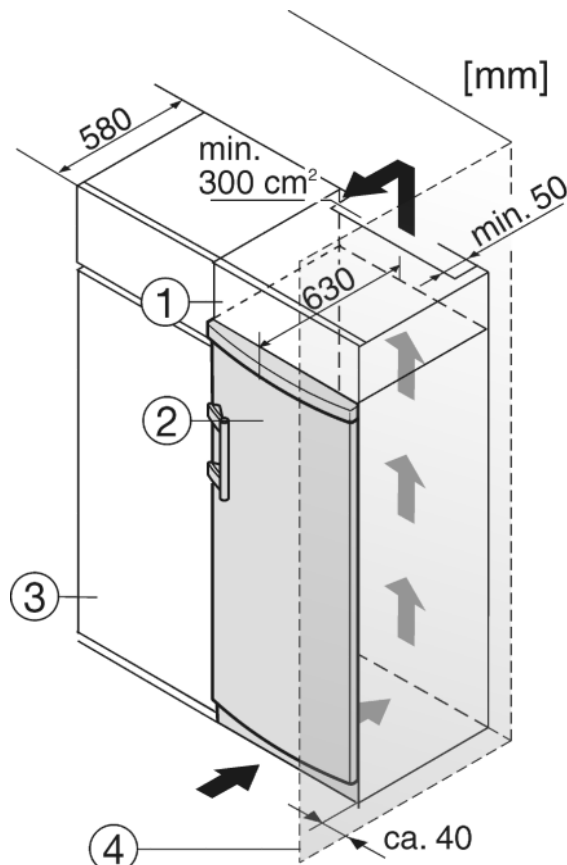

Fig. 8
The appliance can be built into kitchen units. A top cupboard Fig. 8 (2) can be added above the appliance in order to bring the appliance Fig. 8 (1) up to the height of the fitted kitchen units.
When retrofitting with kitchen cabinets (max. depth 580 mm) the appliance can be installed directly next to the cabinet Fig. 8 (3). The appliance door projects 34 mm from the front of the kitchen cabinet at the side and 50 mm at the centre of the appliance. This is so that it can be opened and closed easily.
If the appliance is installed with the hinges next to a wall Fig. 8 (4), the distance between appliance and wall has to be at least 40 mm. This corresponds to the projection of the handle when the door is open.